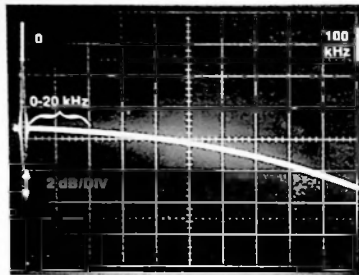

Fig. 13. Checking Frequency Response of Matching Transformer
4. Check the flatness of the matching transformers using the tracking generator output of the 5L4N instead of the audio generator. It should have virtually flat response from 20 Hz to 20 kHz. Any error should be noted for future reference (figure 13).